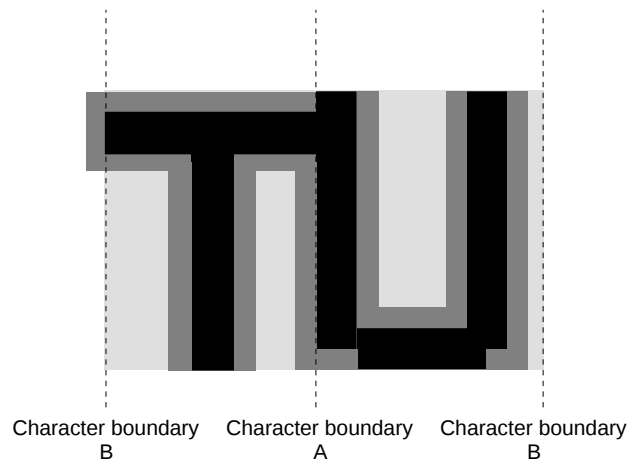

Fig. 66. Border Priority
**2 :** When the border dot overlaps on the next character font, the character font has priority (refer to Figure 66 A).
When the border dot overlaps on the next character back ground, the border has priority (refer to Figure 66 B).